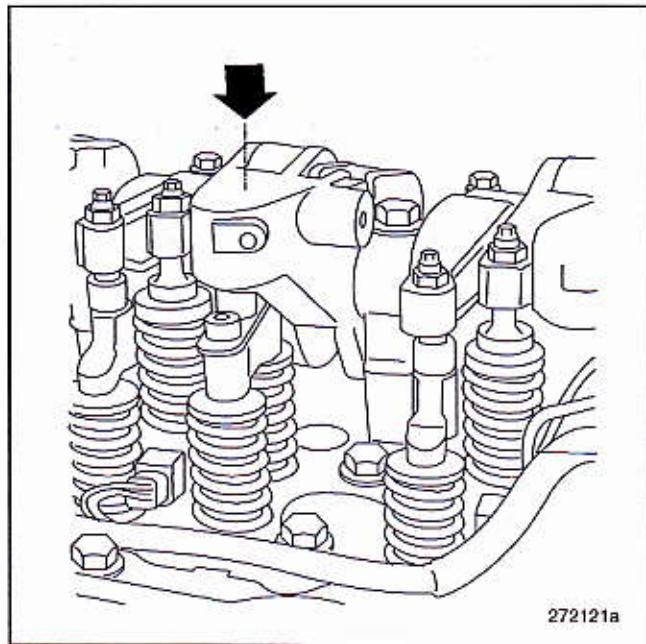

Figure 439 — Releasing Engine Brake Piston Pressure
2. Press down on the rocker arm as shown in Figure 439. If the rocker arm "springs," the brake piston spring should be pulled outward at the same time as the rocker arm is pressed down to make and ensure contact with the valve stem. Use a strong wire with a hooked end to catch and compress the spring. When the piston spring is loosened from its seat, the residual oil film retaining the spring is punctured, allowing the adjustment setting to be more accurate.